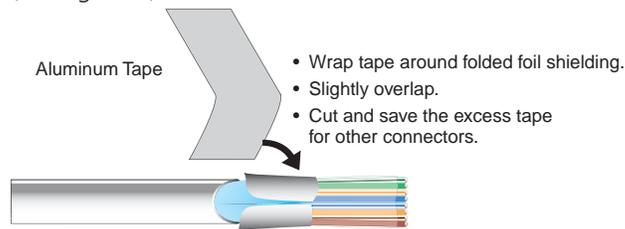

Figure 9. Wrapping the Shielded Tape
3. Peel the backing off the self-adhesive shielded aluminum tape and wrap it around the folded-over cable shielding, **slightly overlapping** the beginning of the tape (see figure 9).